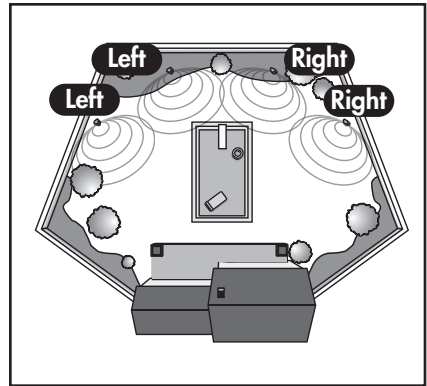

Figure 4. Distributed multi-speaker traditional 2-channel stereo
Placement: Distributed multi-speaker traditional 2-channel stereo (figure 4).
- **Two speaker traditional 2-channel stereo (figure 2) and distributed multi-speaker traditional 2-channel stereo (figure 4):** When sitting in the main listening area, sound should be spacious and clear. Fine-tune placement to achieve optimal imaging. This may involve moving speakers a small amount in one direction or the other, or turning speakers slightly to point toward the listening area.